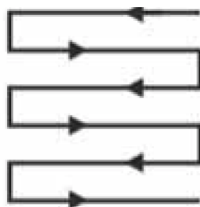

Fig. 14
5. Mow in slightly overlapping rows. The most effective pattern for mowing lawns is straight lines along one of the sides. This will keep the rows even and ensures that all the lawn is cut without missing any spots (Fig. 14).